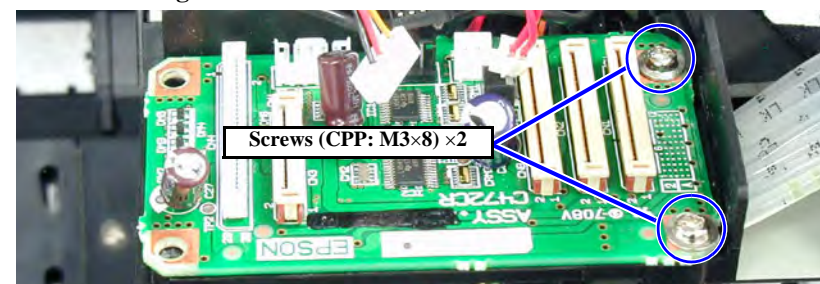

Figure 4-32. CR Board Removal
7. Remove the two screws (CPP: M3×8) securing the CR Board ASSY and remove the CR Board ASSY. (See Figure 4-32)